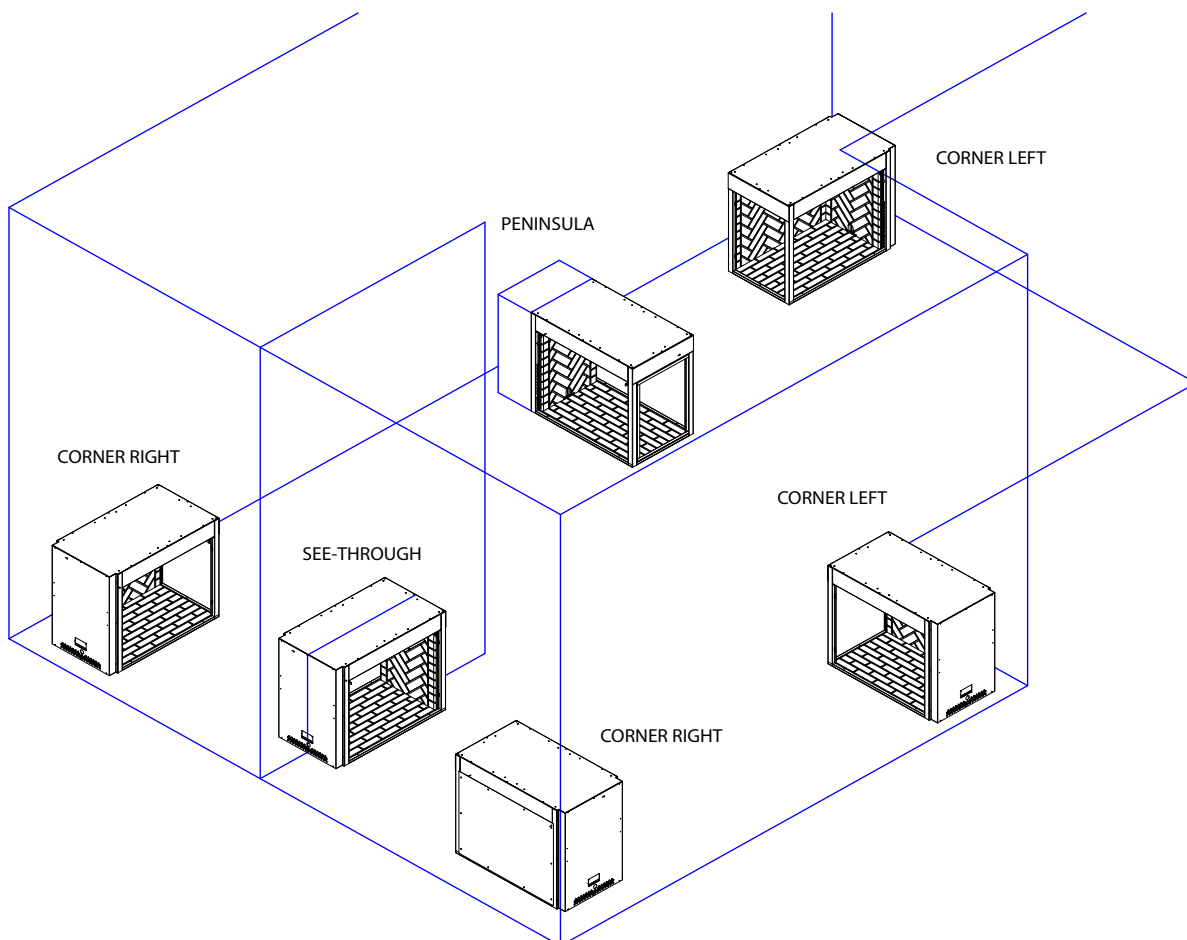

Figure 2 - Suggested Firebox Locations
- Minimize modifications to existing construction. **See Figure 2** for location suggestions.